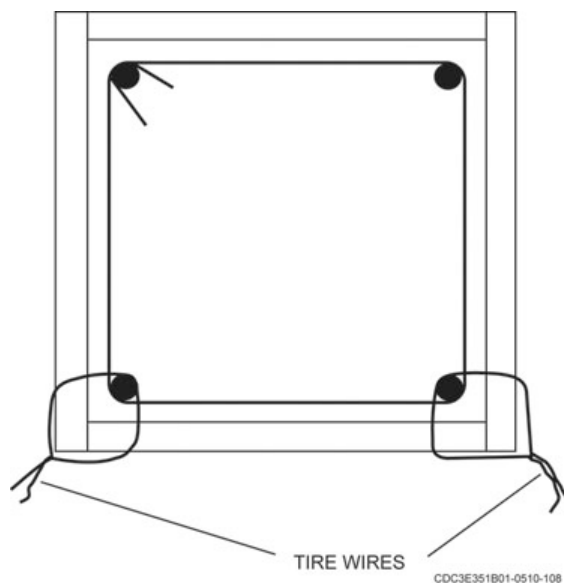

Figure 1-37. Column reinforcement.
4. Erect the column form and tie the reinforcing steel to the column form at 5-foot intervals, as shown in figure 1-37.